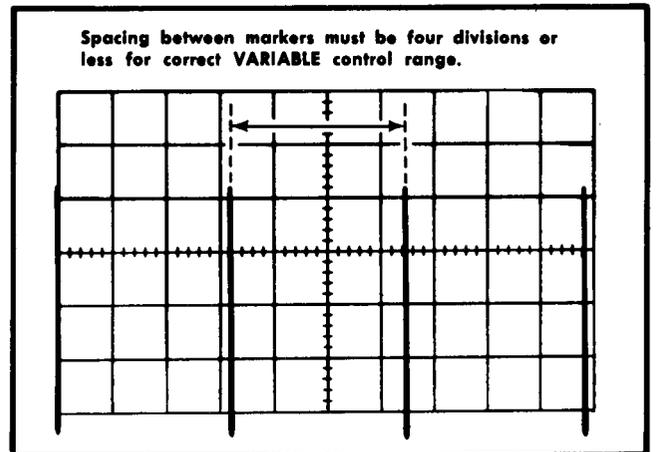

Fig. 5-23. Typical CRT display when checking A and B VARIABLE control range.
- f. CHECK-CRT display for four-divisions maximum spacing between markers (indicates adequate range for continuously variable sweep rate between the calibrated steps; see Fig. 5-23). UNCAL A OR B light must be on when A VARIABLE control is not in CAL position.